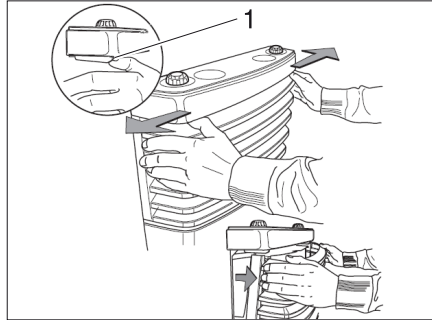

Fig. 104 Removing the heater cover
- Remove the heater cover. To do so, push the locking springs (Fig. 104,1) sideways and outwards, swivel the cover forwards and lift it out of the lower brackets.